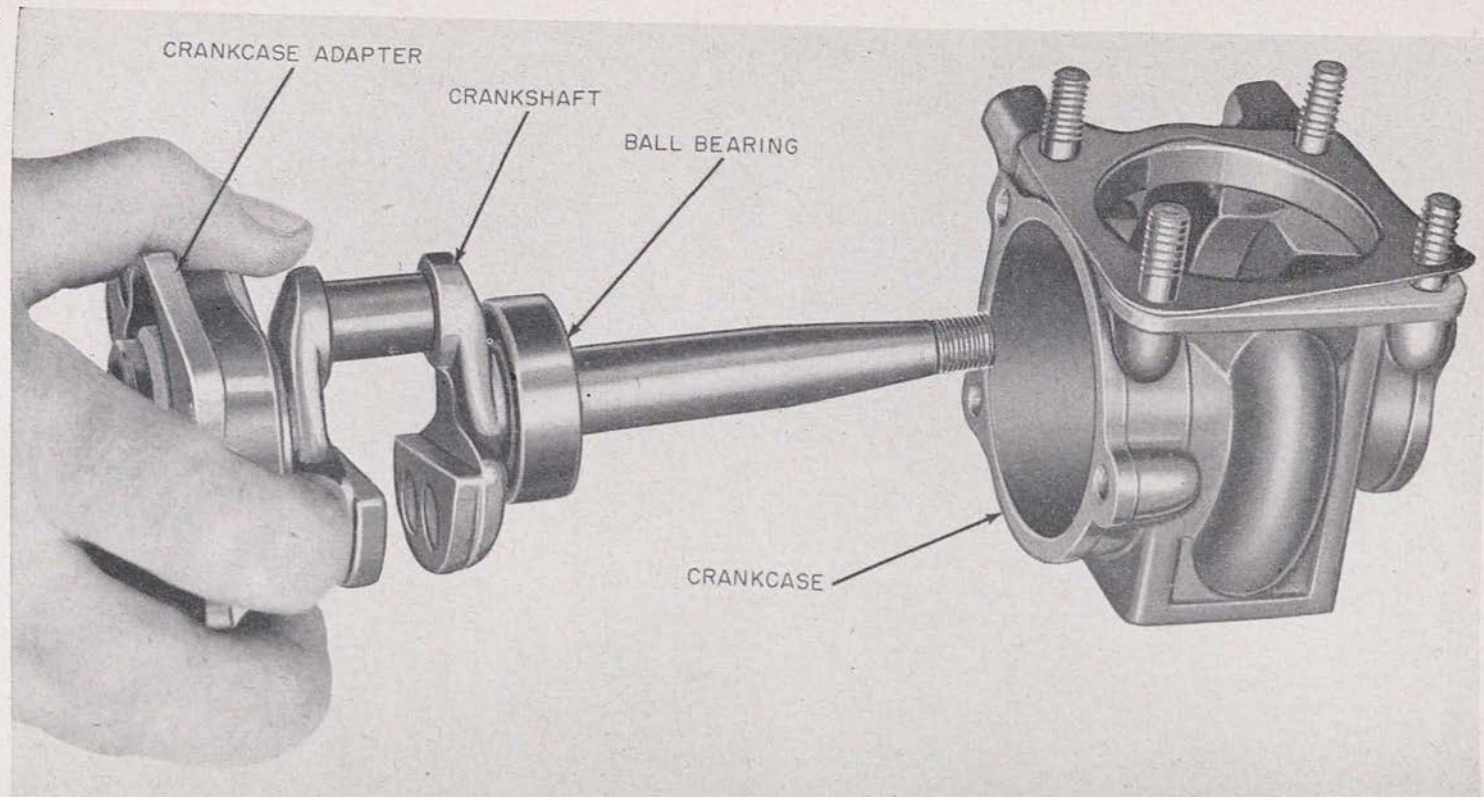
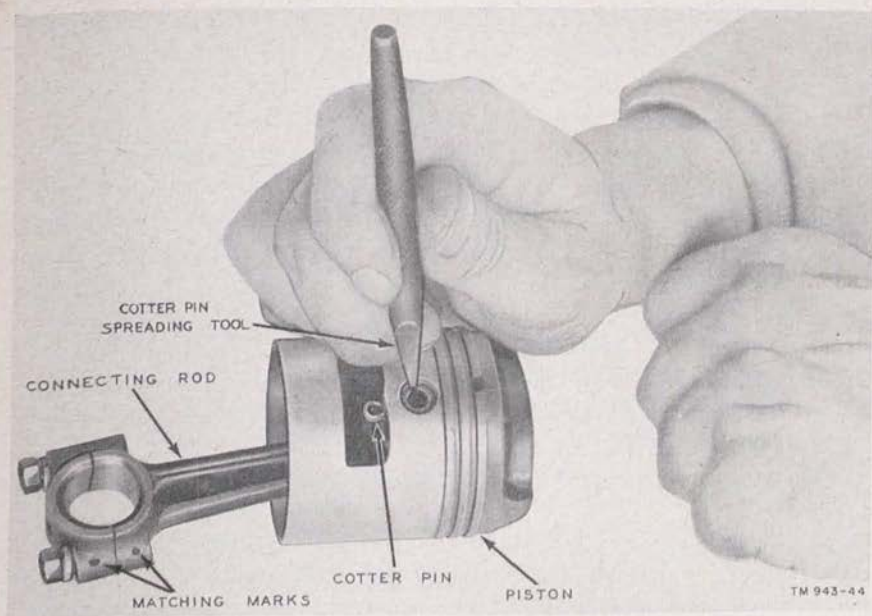

Figure 43. Crankcase adapter, crankshaft, and crankshaft bearing, removed from crankcase.
Figure 44. Installing piston pin retaining cotter pin.
a. CRANKSHAFT AND MAIN BEARINGS (fig. 43).
- (1) Press the old bearings or replacement bearings on the crankshaft. This must be done on a press, and the bearings must be properly supported.
- (2) Press the crankcase adapter over the bearing on the splined end of the crankshaft.
- (3) Replace the crankcase adapter gasket and install the crankshaft assembly in the crankcase. This will be a light drive fit. Avoid cocking the bearing when inserting it in the crankcase. Attach the adapter to the crankcase with the three screws and lockwashers.
b. PISTON, PISTON RINGS, AND CONNECTING ROD (fig. 44). When all parts have been cleaned and inspected and defective parts replaced, reassemble the piston rings and the connecting rod as follows:
- (1) Spread the piston rings and install them in the piston grooves. If the old rings are being re-used, transpose them by installing the bottom ring in the top groove and the top ring in the bottom groove.
- (2) Position the connecting rod in the piston and install the piston pin. This should be a light tap fit. If the piston pin is loose in the piston, it will shear the cotter pin. Side movement of the pin may occur and cut grooves in the cylinder liner. Install a new cotter pin to lock the piston pin in the piston. Spread the center of the cotter pin with a sharp V-shaped tool after the pin is in place.